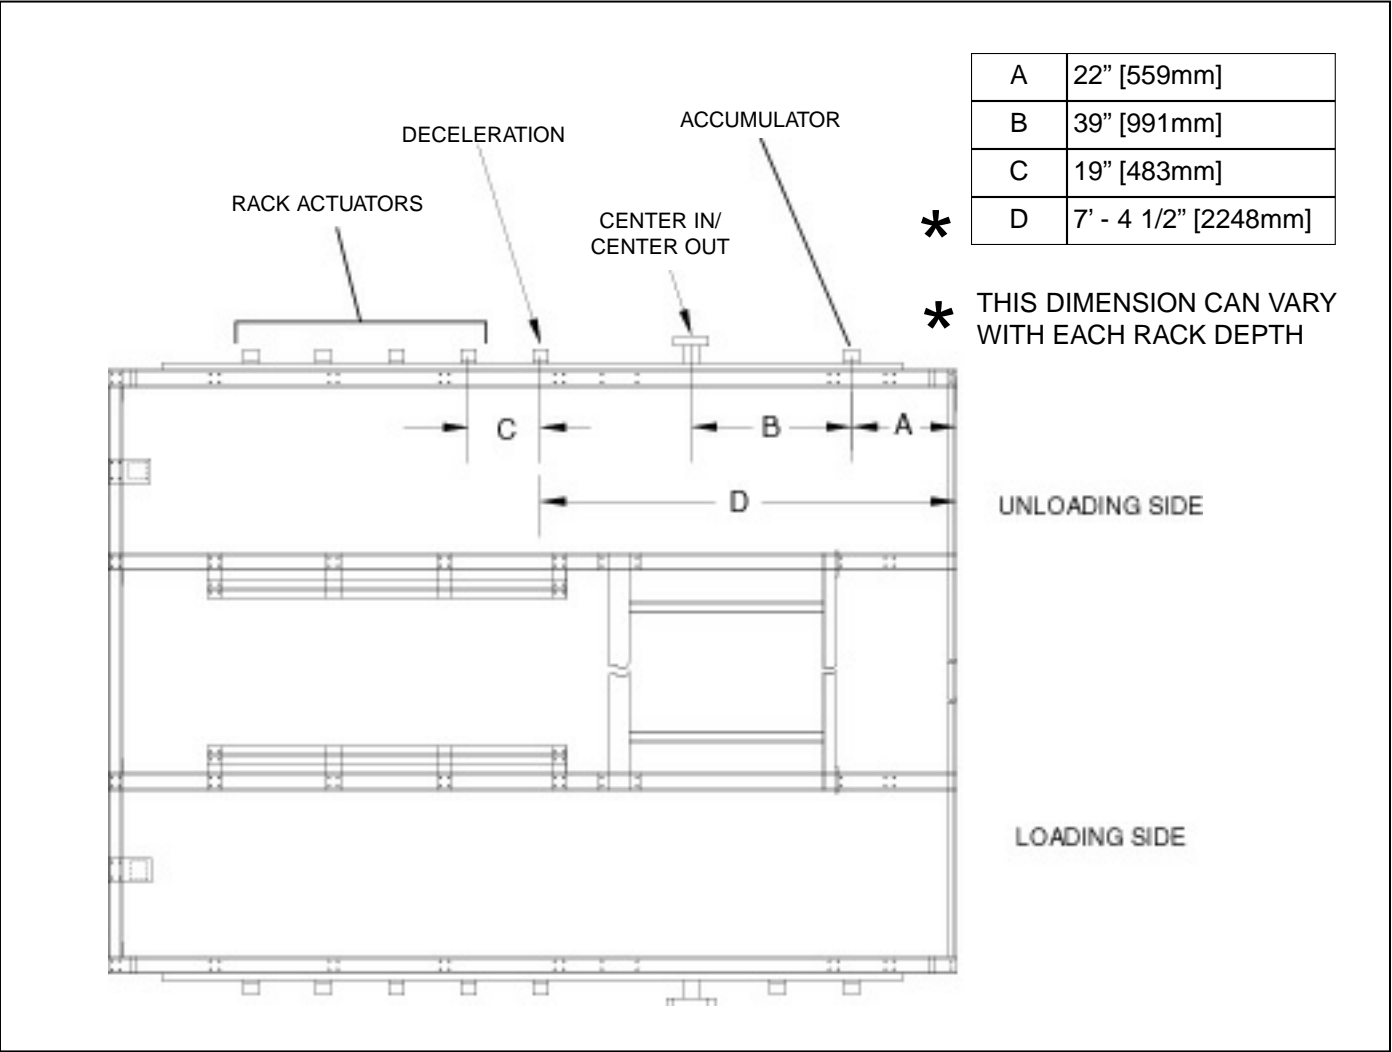

Figure 2.18 FRAME ACTUATORS ON UNLOADING SIDE (VIEWED FROM ABOVE).
2.2.3.3 Set all actuators according to dimensions shown in figure 2.18 below and on frame drawing supplied.